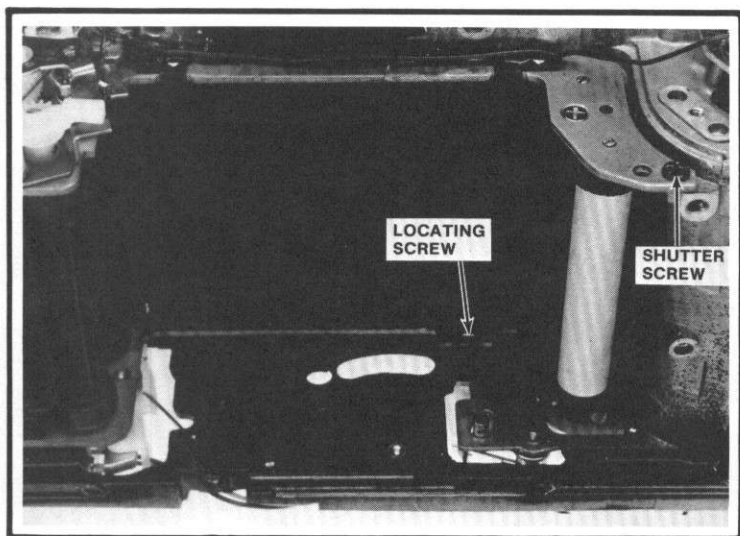

Figure 71
15. Remove the shutter-retaining screw at the tension-rollers end of the shutter, Fig. 71.
16. Remove the locating screw at the bottom of the shutter assembly, Fig. 71.